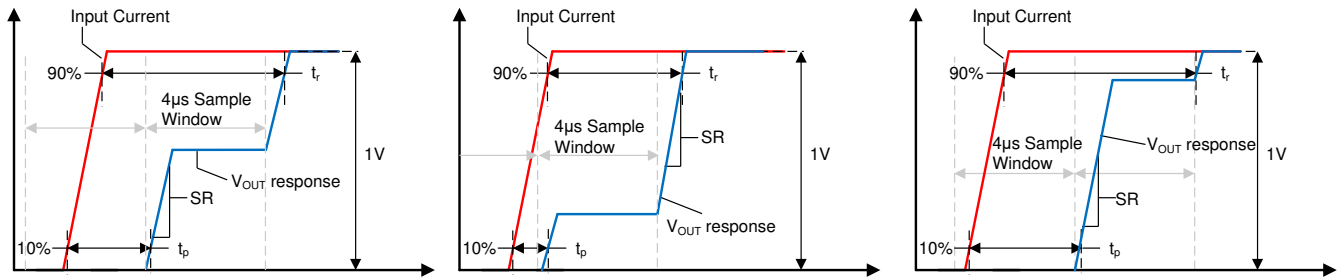

图 8-3. Small Current Input Step Transient Response
Slew rate (SR) is defined as the V_{OUT} rate of change for a single integration step's output transition, as shown in 图 8-3. Because the device often requires two sampling windows to reach a full 90% settling of its final value, this slew rate is not equal to the 10%-90% transition time for the full output swing.
Propagation delay is the time period between the input current waveform reaching 10% of its final value and V_{OUT} reaching 10% of its final value. This propagation delay is heavily dependent upon the alignment of the input current step and the sampling period of the TMCS1101-Q1, as shown for several different sampling window cases in 图 8-3.
Response time is the time period between the input current reaching 90% of its final value and the output reaching 90% of its final value, for an input current step sufficient to cause a 1-V transition on the output. 图 8-3 shows the response time of the TMCS1101-Q1 under three different time cases. Unless a step input occurs directly during the beginning of one sampling interval the response time will include two sampling intervals.